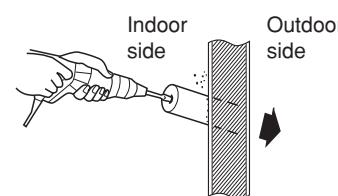

Fig. 3-92
- (8) If the tubing and wiring are to go towards the rear of the unit, make holes in the wall. (Fig. 3-92)